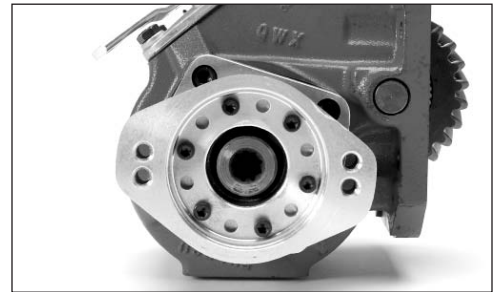

Fig. 6
10. Next install the pump flange as shown in Fig. 6. With the P.T.O. on the workbench, shift cover facing towards you and the belly of the P.T.O. down, the flange shown should be towards your right. Orient the pump flange to the 3:30 – 9:30 position. Install the 6 socket head capscrews (378446-4) and torque to 8-12 Lbs. ft. [11-16 N.m.].